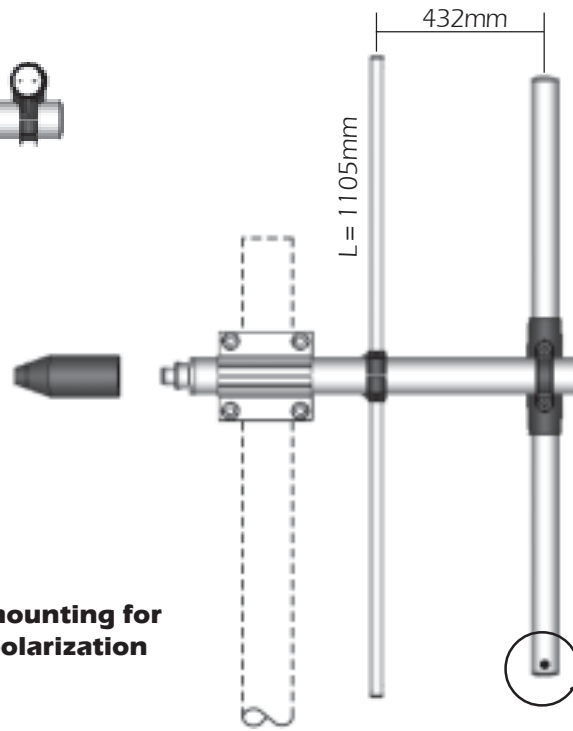

Fig.1
1) By means of a meter measure the aluminium elements **A** and position them in the plastic support **B** of the boom according to **fig. 1**.